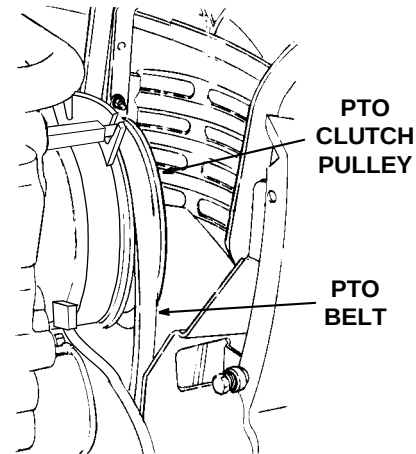

Figure 37
13. Pass the PTO belt upward inside the front of the tractor frame and install the forward end of the belt onto the PTO clutch pulley on the front of the engine. Ensure that the narrow side of the PTO belt engages the groove of the clutch pulley (Refer to Figure 37).